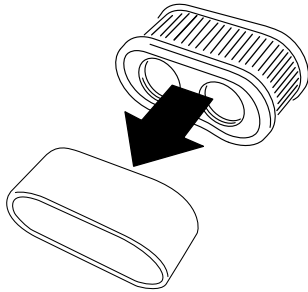

Figure 29
- Remove the foam element from the paper element (Figure 29).